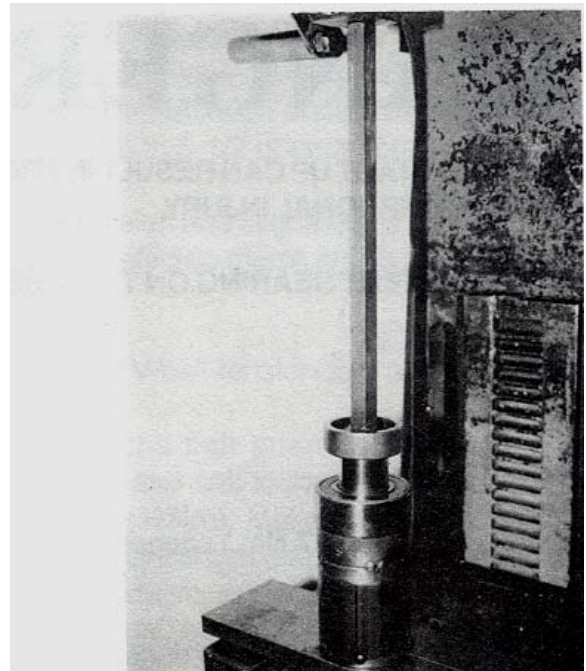

FIGURE 43
9) Position the bearing block on the arbor press with the bearing facing up. Support the inner race of the bearing with an appropriate sized bushing to absorb the thrust created by pressing the driveshaft into the bearing. FIGURE 43.